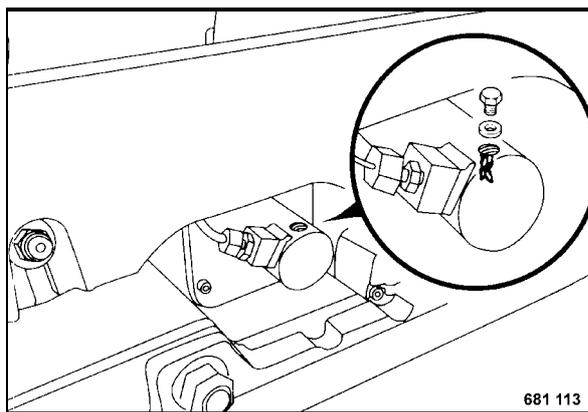

Fig. 78
- Wait until all air has escaped (Fig. 78).